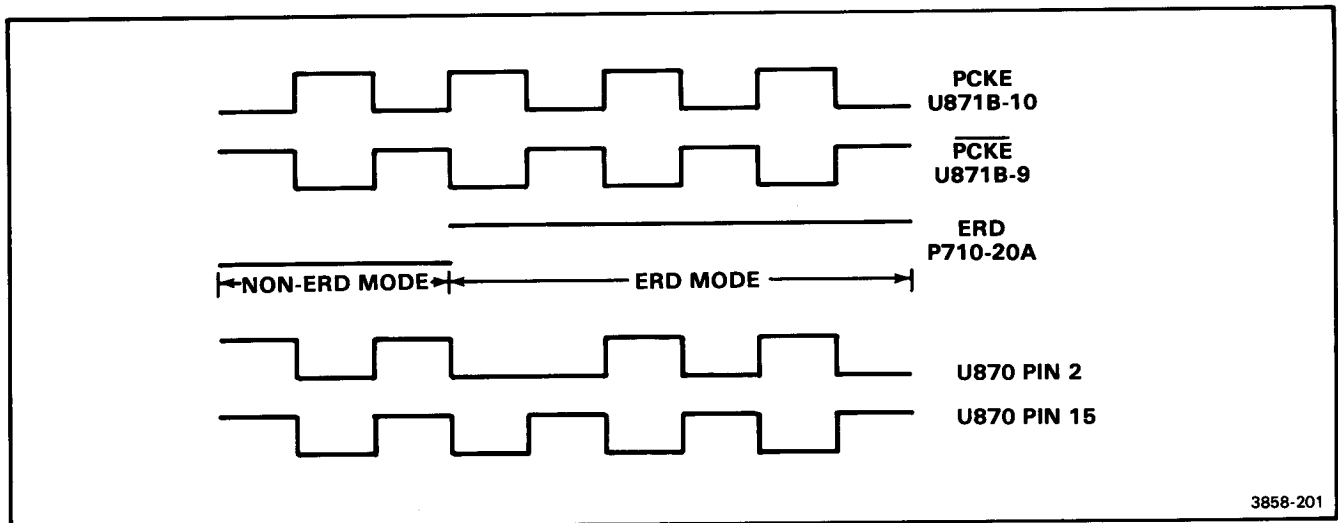

Figure 2-7. Generation of non-ERD and ERD CCD modes.
The phase clock (PCKE and  $\overline{\text{PCKE}}$ ), ERD and fast-in (FI) signals provide the basic timing and control for the CCD clock signals. Line receivers U871B and U871C, and quad-OR gate U870, decode the PCKE,  $\overline{\text{PCKE}}$  and ERD signals into two CCD clock signals at pins 2 and 15 of U870 (see Fig. 2-7).